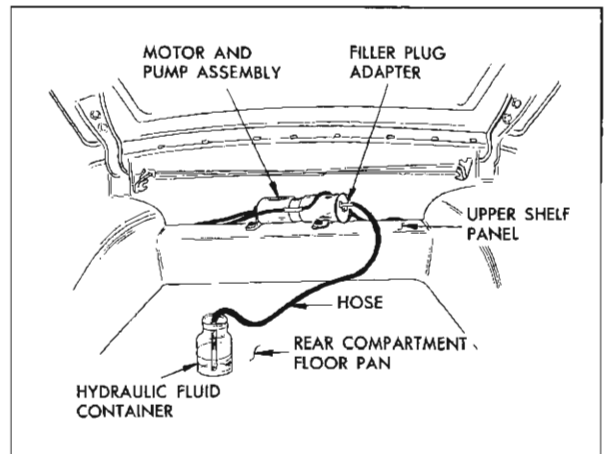

Fig. 21-72 Filling Hydro-Lectric Reservoir
d. Install opposite end of hose into a container of G.M. Hydraulic Brake Fluid Super #11 or equivalent (Fig. 21-72).